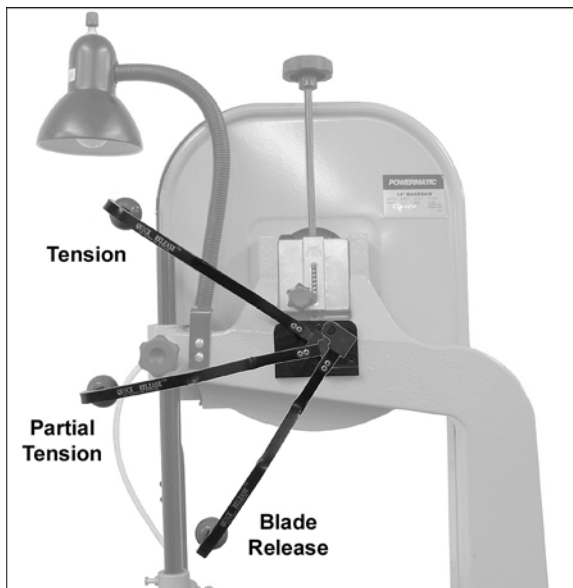

Figure 42
Refer to Figure 42.
2. Move tension lever to blade release position, as shown in Figure 42.
2. Place tension lever in full tension position (see Figure 42).